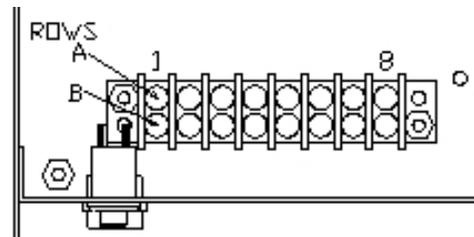

Figure 9 – SDR1K-ENC terminal strip numbering
8. Connect the red wire spade lug to position B6 on the terminal block located in the SDR1K-ENC enclosure (see Fig. 9 and 10).
9. Connect the black wire spade lug to position B3 on the terminal block located in the SDR1K-ENC enclosure (see Fig. 9 and 10).